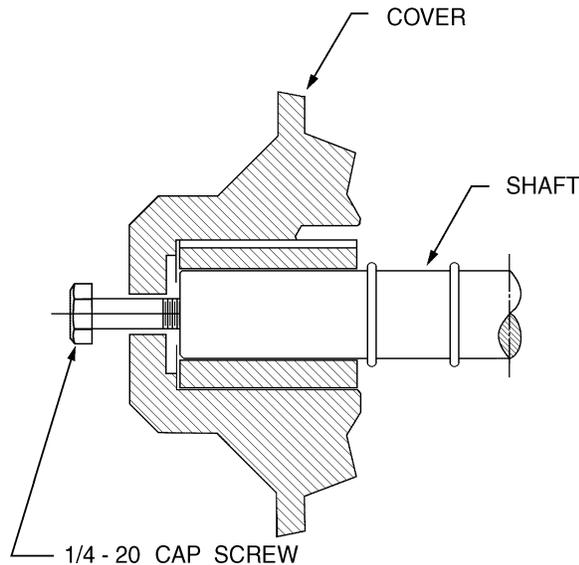

Figure 9
20. Install the rear housing screws (items 26). Tighten evenly to 72 in.-lb (810 N-cm) in an “X” pattern in small intervals (**do not** tighten one side excessively and then tighten the opposite side, as this will tend to crush the TFE “O”-ring and cause a leak).
21. Omitting the front cover “O”-ring, trial assemble the front cover with no shims (item 3).
- e) Install and hand tighten the cover bolts (items 15) evenly.
- i) After the shims are in place, install the O-ring (item28) over the inner barrel of the front cover, seating it fully and smoothly against the shoulder.
- j) Install the cover, taking care to avoid damage to the outer bearing (item 9) and ensuring that the O-ring seats in the rabbet in the rear housing without pinching. Install the cover bolts (item 15) and tighten to 220 in-lb. (2490 N-cm) using the pattern shown in *Appendix B*.
- k) Remove the pipe plug (item 27) from the central face of the front cover to expose the tapped hole in the end of the shaft and thread a 1/4-20 screw into the shaft to rotate the shaft (refer to **Figure 9**). With the screw bottomed hand-tight in the shaft, free axial play of the shaft relative to the impeller can be confirmed by alternately pushing and pulling the screw. This condition is essential since it confirms that the impeller floats axially on the shaft. If there is significant resistance to rotation, additional shimming is required, using a starting value of 0.002”.